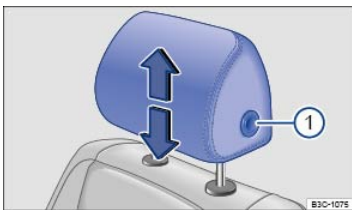

Fig. 79 Adjusting the front head restraints.
- While pressing the button ⇒ Fig. 79①, pull the head restraint up or push it down ⇒ .